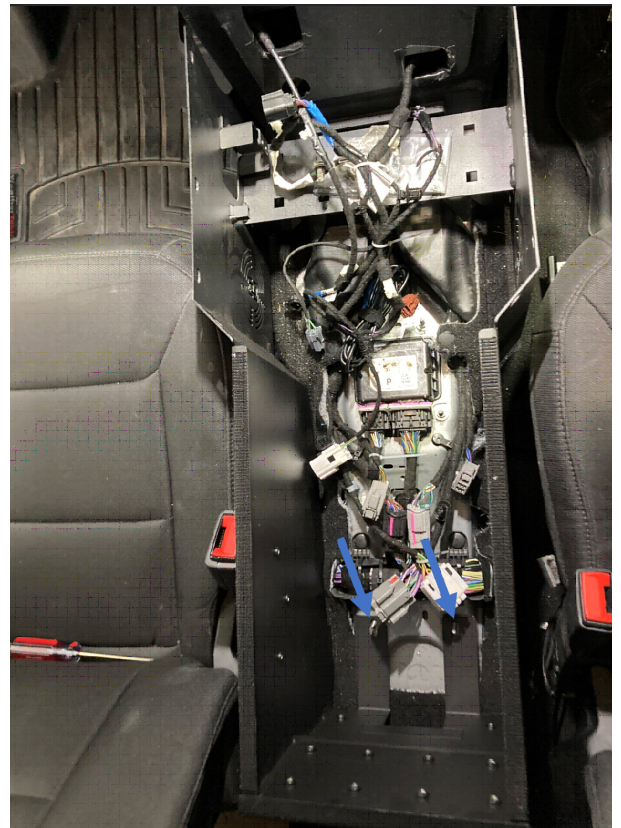

Fig. 4
5. With the front mounting legs in place, drop in the main console body, ensuring that the slots in the integrated rear legs align with the rear OEM studs. (Fig. 4)